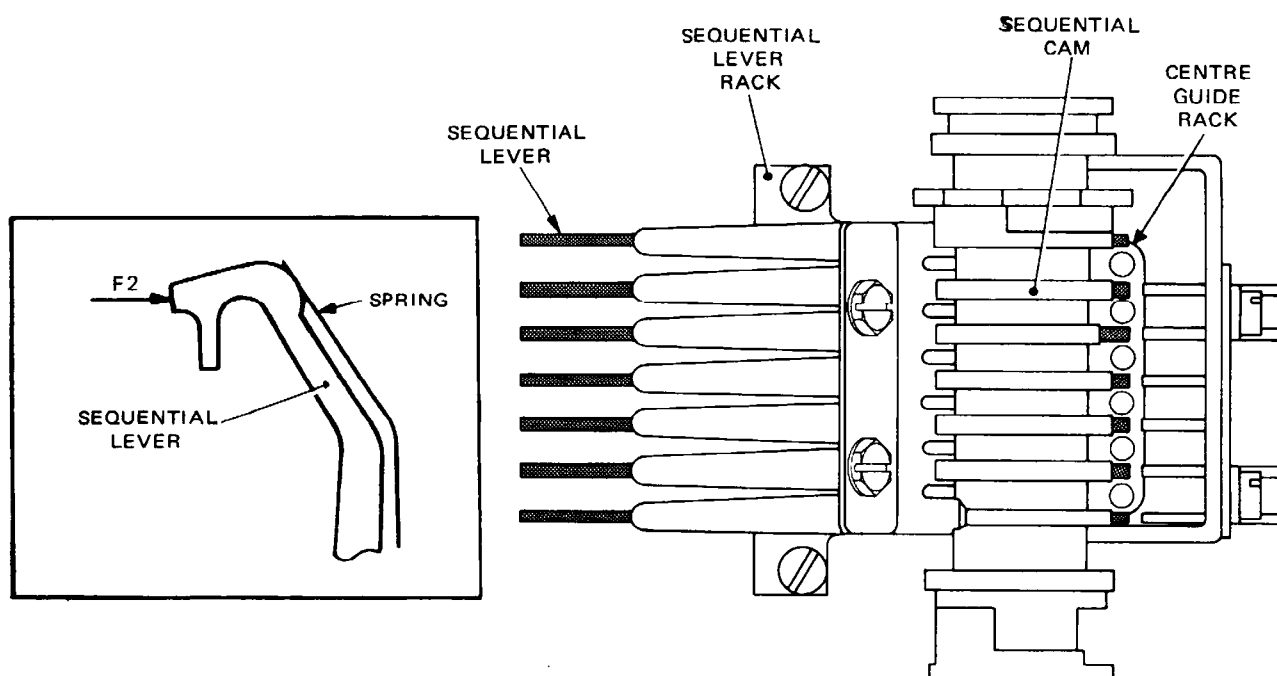

Fig. 4.17 SEQUENTIAL LEVER RACK AND SPRING ASSEMBLY
- 18.3 Set the camshaft to the rest position, and check that the force  $F_2$  (Fig. 4.17 inset) required at the tip of each sequential lever to oppose the spring is 120–150 grams. Check that the levers operate smoothly.
- 19.1 Check that the sequential levers, Fig. 4.17, are fully engaged with their cams. Check also that the levers are free to move within the sequential lever rack and centre guide rack.